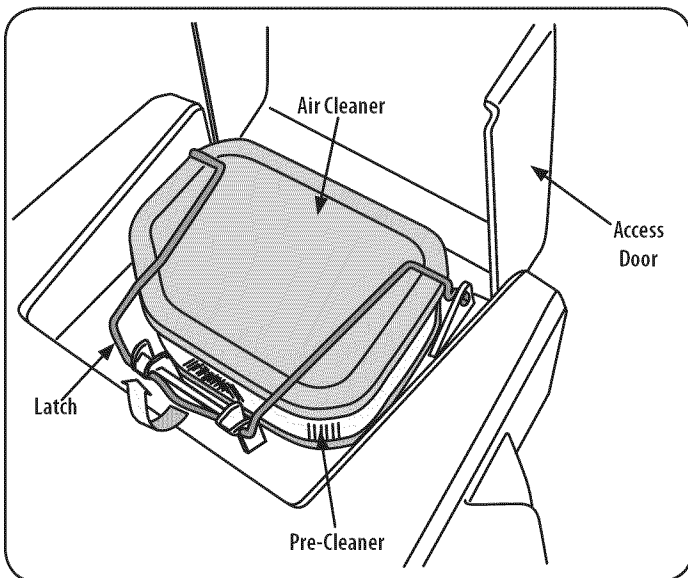

Figure 26
- Open the air cleaner access door and unhook the latch. See Figure 26.